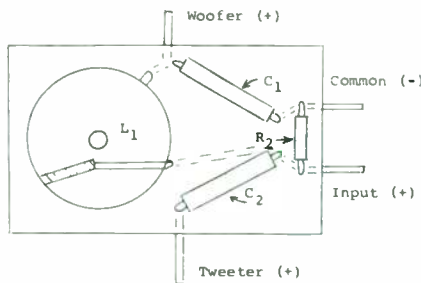

FIGURE 7: New crossover board. Mount components with silicon sealer to prevent vibration or rattles.
**BUILDING THE CROSSOVER.** All the new crossover parts were assembled on a piece of 3" by 4" perfboard (Fig. 7). Because of the fairly critical importance of the little system's internal volume,